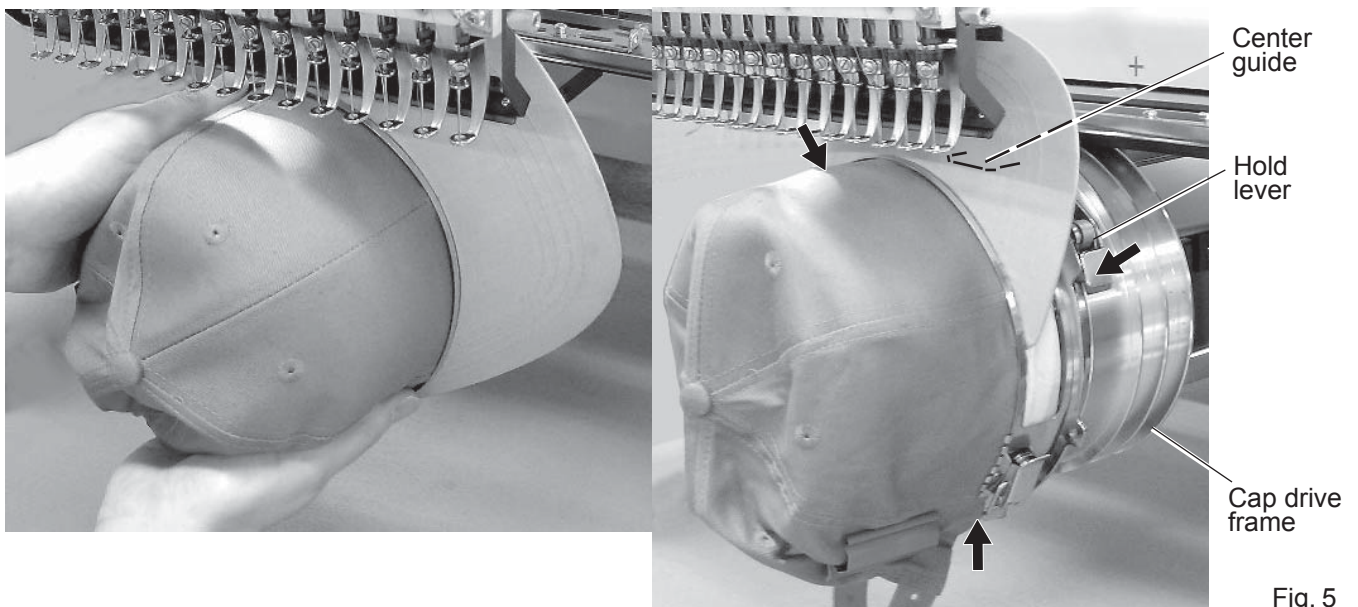

Fig. 5
- As shown in Fig. 5, install the cap frame on cap in the drive frame. Rotate the cap frame as show in the Fig 5 so that the brim of the cap cannot hit the machine. Then, push the holder lever in the 3 places shown in the arrow in Fig. 5, and install the cap frame in the cap drive frame so that so that the center guide of the drive frame fits the concave area of the cap frame.